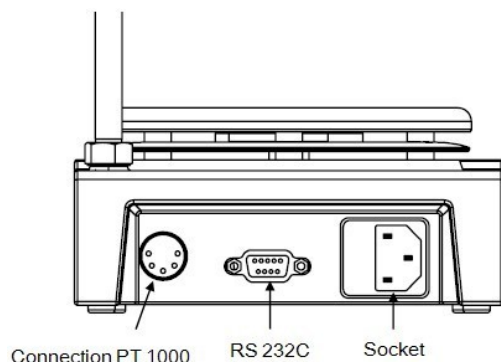

Figure 7
- The functions of the interface lines between laboratory instrument and automation system are selected from the specified signals of the EIA-standard RS232C, corresponding with DIN66020 Part 1. The allotment of the bushing can be taken from Figure 7